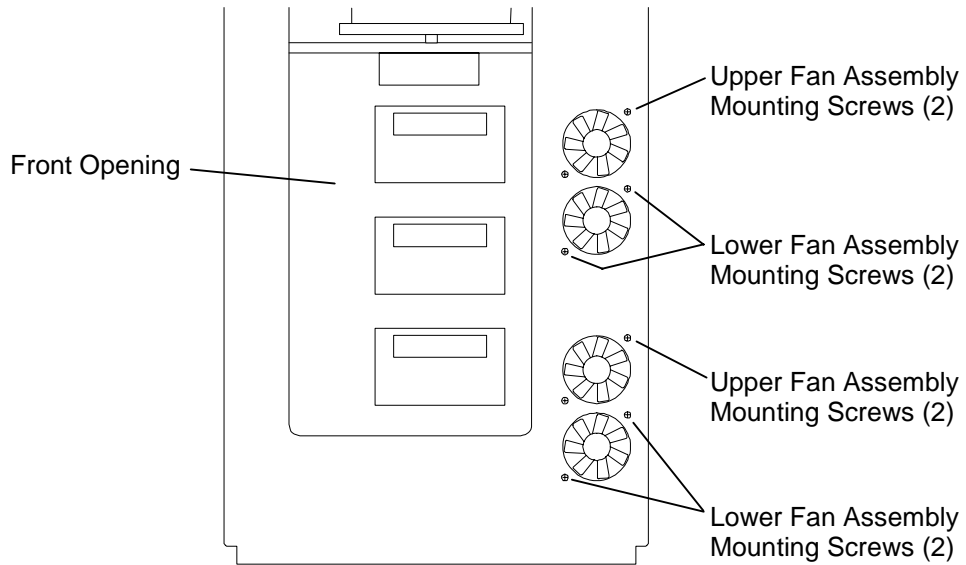

Figure 7-21 Fan Assembly Mounting Screws
6. Remove the two Fan Assembly mounting screws (See Figure 7-21).
11. Align the Fan Assembly's mounting screw holes with the mounting screw holes in the TLS and then install the Fan Assembly mounting screws. Thread the nuts on to the mounting screws and then tighten the Fan Assembly mounting screws. See Figure 7-21.